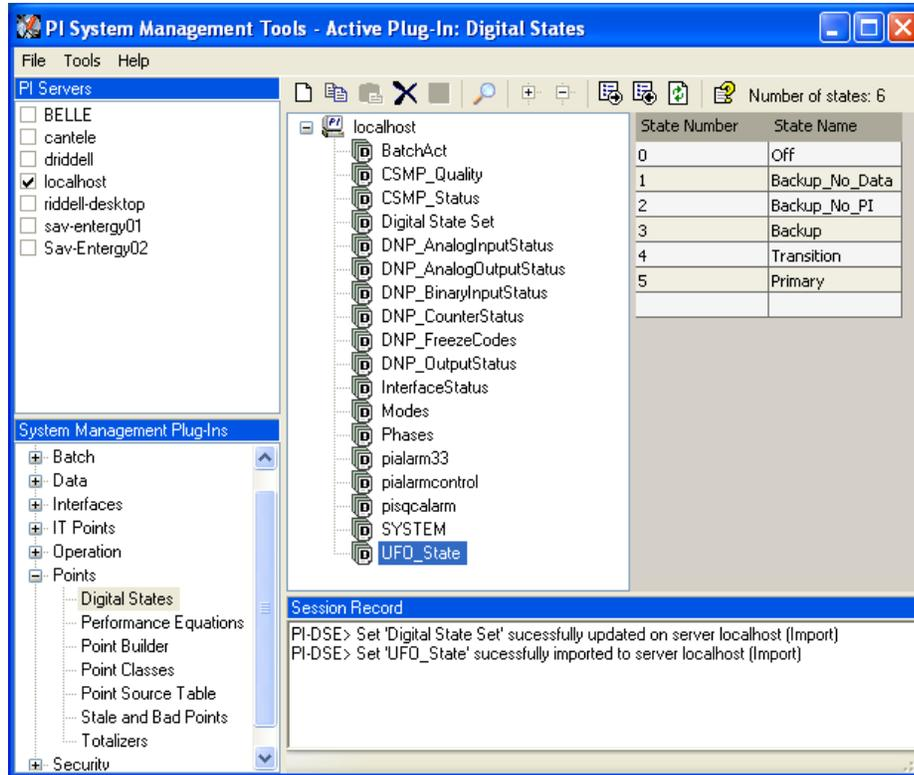

Figure 9: The PI SMT application showing the UFO_State digital set created on the “localhost” PI Data Archive.
7. The UFO_State digital set is created as shown in Figure 9 below.